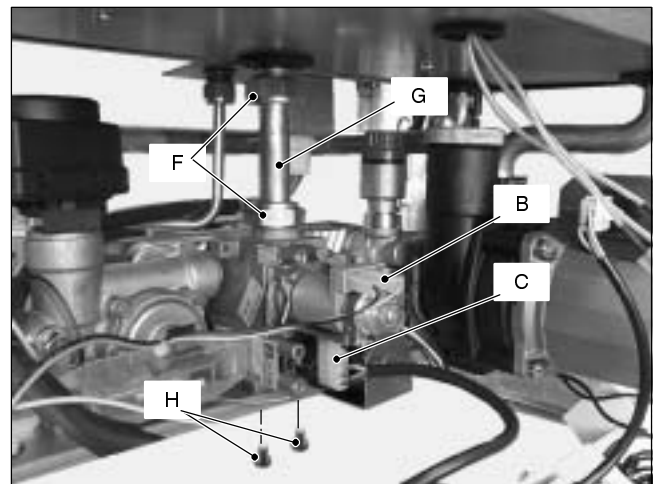

Fig. 48
- 2 Disconnect the connectors *B* (Fig. 48) from the modulating operator and measure the electrical resistance of the coil. Its electrical resistance value must be approx.  $80 \Omega^*$ .
- 2 Disconnect the electrical connector *C* (Fig. 48).
- 2 Disconnect the connectors *B* and *C* (Fig. 48).